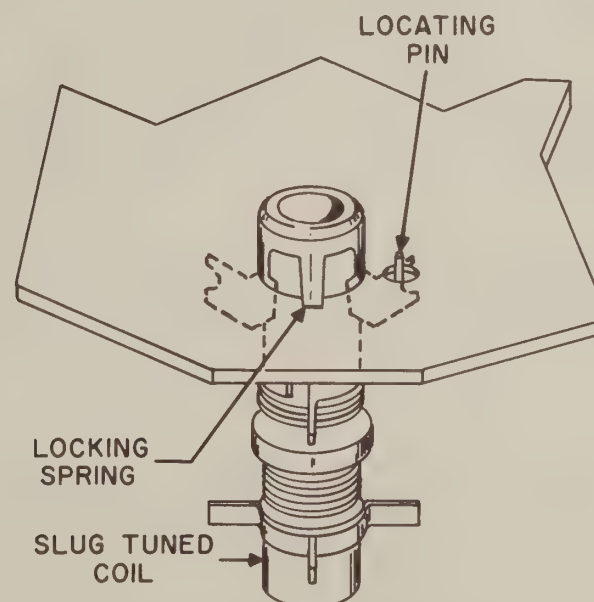

FIGURE 20. COIL MOUNTING
- ☐ Mount the following coils as shown in Figure 20.